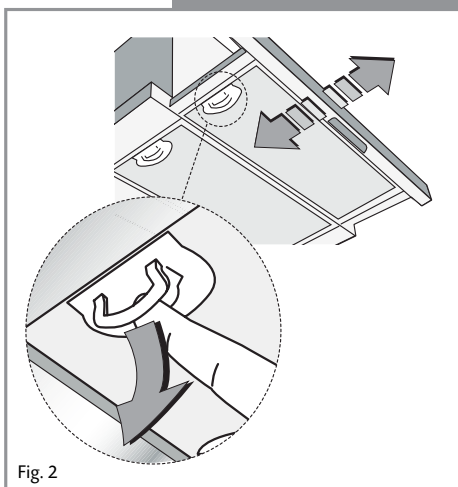

Fig. 2
1. Open the extractor fully as shown in fig 2.
2. Pull open the handle on the grease filter as shown in fig. 2. It will release at the handle side. Then lower the grease filter to remove it completely.